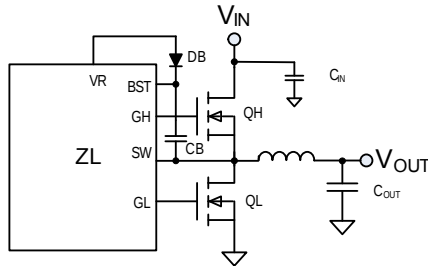

FIGURE 5. Synchronous Buck Converter
Figure 5 illustrates the basic synchronous buck converter topology showing the primary power train components. This converter is also called a step-down converter, as the output voltage must always be lower than the input voltage. In its most simple configuration, the ZL2008 requires two external N-channel power MOSFETs, one for the top control MOSFET (QH) and one for the bottom synchronous MOSFET (QL). The amount of time that QH is on as a fraction of the total switching period is known as the duty cycle D , which is described by Equation 1:
Typically, buck converters specify a maximum duty cycle that effectively limits the maximum output voltage that can be realized for a given input voltage. This duty cycle limit ensures that the lowside MOSFET is allowed to turn on for a minimum amount of time during each switching cycle, which enables the bootstrap capacitor (CB in Figure 5) to be charged up and provide adequate gate drive voltage for the high-side MOSFET. See section "High-side Driver Boost Circuit" on page 12 for more details.
The gate drive voltage for the high-side MOSFET driver is generated by a floating bootstrap capacitor, CB (see Figure 5). When the lower MOSFET (QL) is turned on, the SW node is pulled to ground and the capacitor is charged from the internal VR bias regulator through diode DB. When QL turns off and the upper MOSFET (QH) turns on, the SW node is pulled up to VDD and the voltage on the bootstrap capacitor is boosted approximately 5V above VDD to provide the necessary voltage to power the high-side driver. A Schottky diode should be used for DB to help maximize the high-side drive supply voltage.